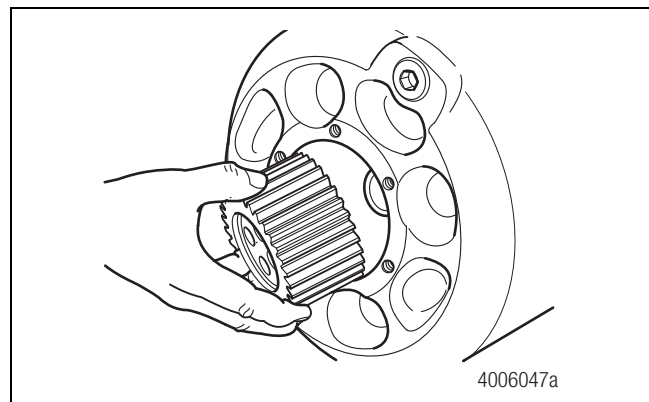

Figure 3.3
6. Use a suitable tool to secure and remove the sun gear from the hub housing. Figure 3.3.